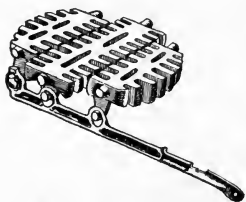

FIG. 1-a. Grate.
These grates are usually reversed by a stove shaker. (Fig. 1-a shows a detailed drawing of a grate.) The housekeeper must understand how this is done in order to avoid reversing them when she shakes down the ashes. Two difficulties arise in reversing the grate when the stove is filled with fuel. The coal may be wasted by falling thru the part intended for wood, or pieces of fuel may fall between the parts so that they cannot be moved. When this happens, it is best to let the fire go out, take out the fuel, adjust the grates as they should be and rebuild the fire.
3. Drafts or Dampers. There are from three to six dampers on a stove (Figs. 1 and 2), as follows: